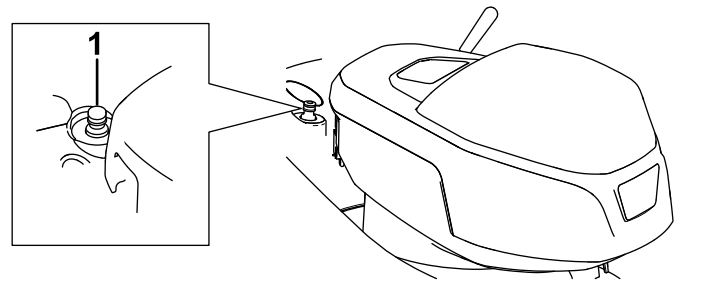

Figure 24
4. Attach a garden hose that is connected to a fresh water supply to the quick-wash port (Figure 24).